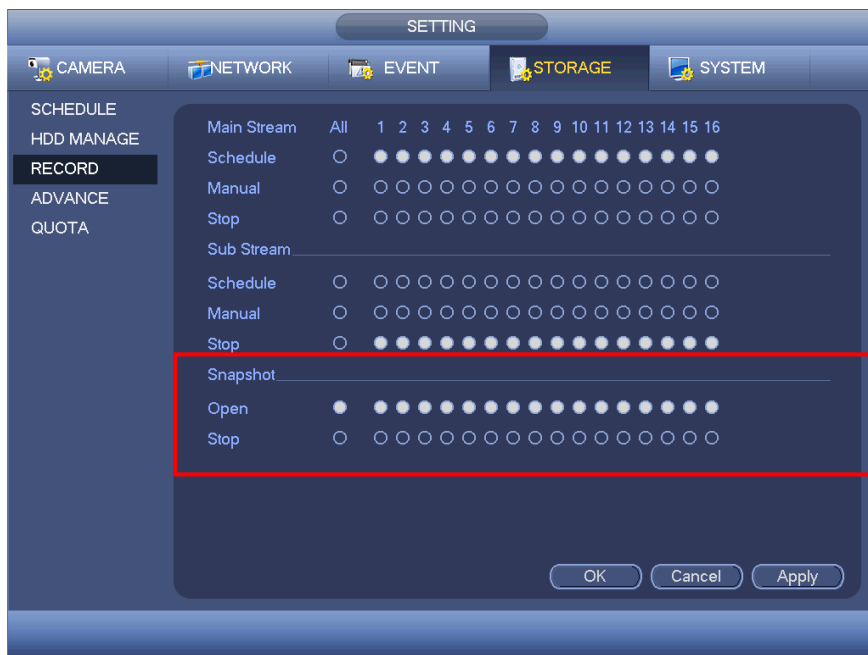

Figure 4-115
- On the preview interface, right click mouse and then select Manual->Record, or in the main menu, from Setting->Storage->Record, check the box to enable snapshot function of corresponding channels. See Figure 4-115.